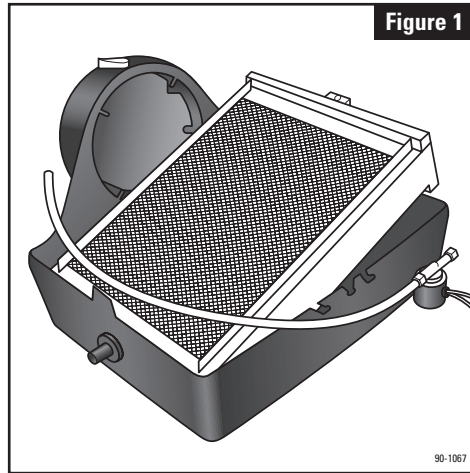

Figure 1
1. Remove front cover by pressing center tabs on top and bottom of the cover (1) and base (2). Pull feed tube (3) out of the water distribution tray (4). Tip the Water Panel® Evaporator assembly forward and lift it out of the humidifier. (See Figure 1)
2. The humidifier comes assembled for left side discharge. If converting to right side discharge, the base can be rotated so round collar is facing to the right. Swap the location of the hole plug (10) and drain spud (9) if using a right side discharge. To remove the cap, push and twist from inside the housing while lifting the cap up slightly on the outside. To remove the drain spud, twist and push from the outside of the base.
6. Reinstall the Water Panel® Evaporator assembly back into the base, with the bottom of the scale control insert (6) sitting firmly in the inside of the drain spud (9). Push the